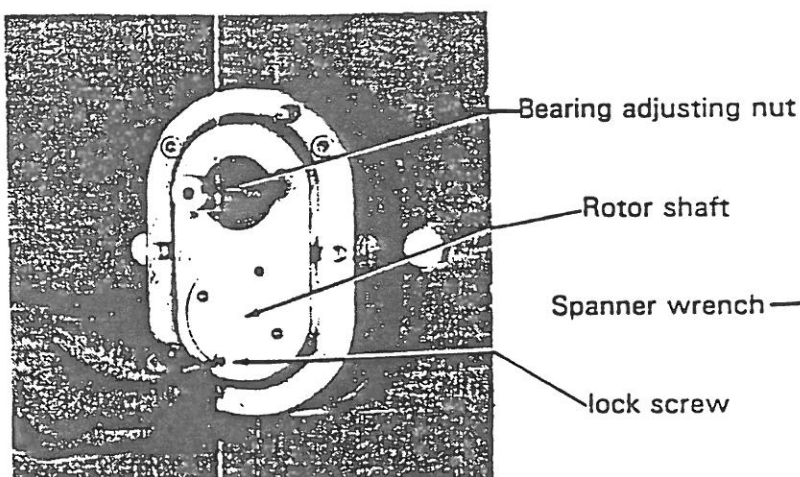

Fig.1
- Remove the lock screw in each of the bearing adjustment nuts (fig.1).